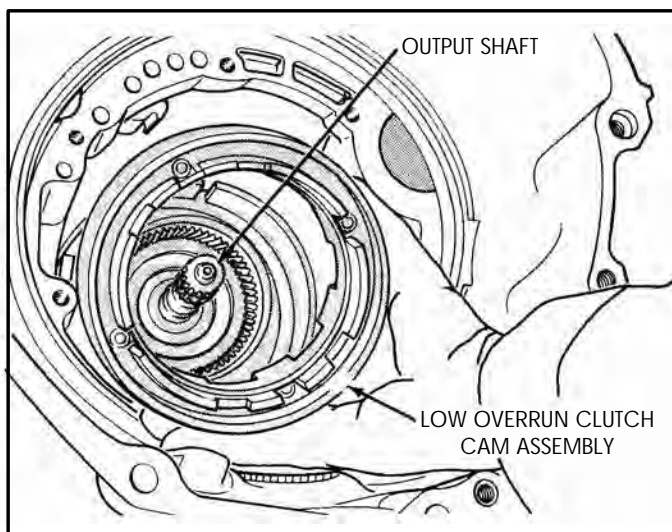

Figure 222
3. Install the pre-assembled low overrun clutch with the assembly tool (See Figure 222).